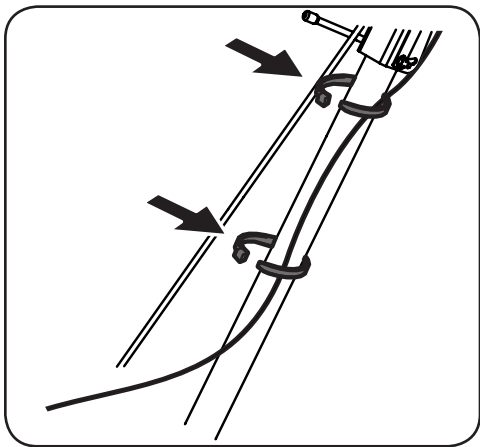

Figure 2-4
2. Route the wire up the handle shaft and secure with cable ties just above the lower handle adjust bracket and below the upper handle adjust bracket. See Figure 2-4.